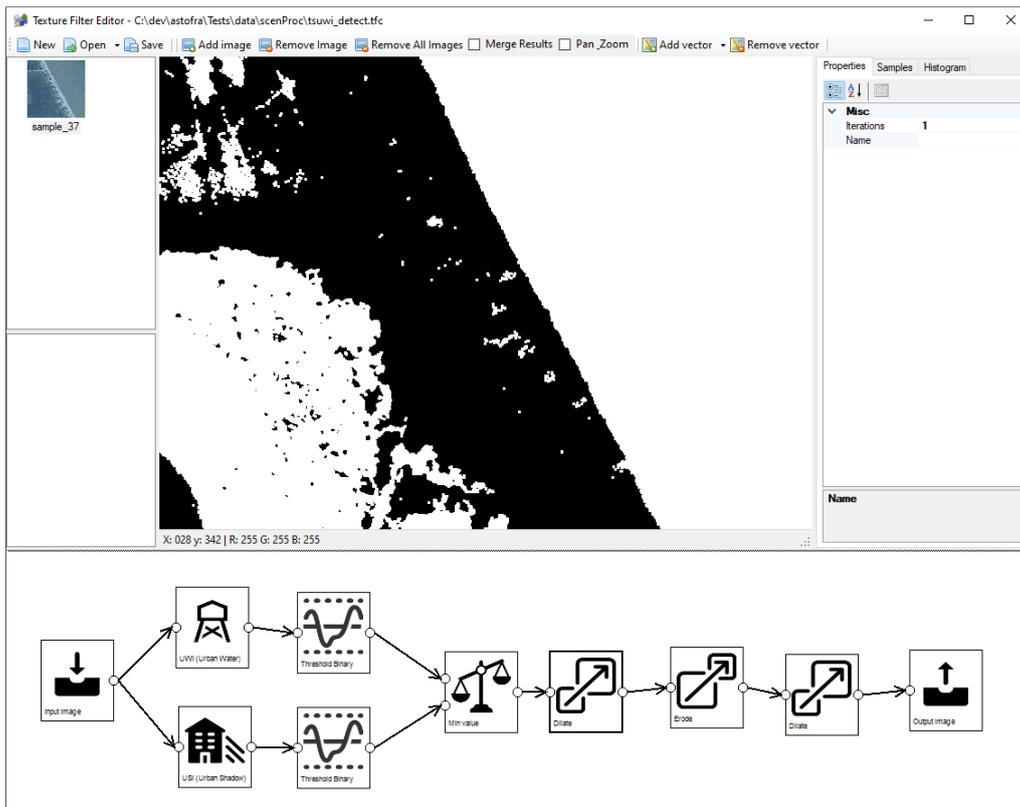

Figure 6.45: Eroding the result to get rid of noise
7. Erode step with 1 iteration to get rid of small noise, see Figure 6.45.